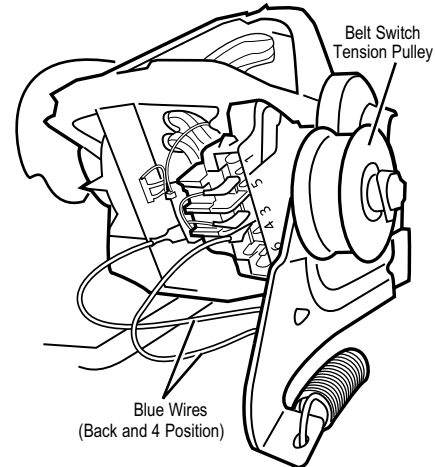

Figure 9. Checking the belt switch.
- Check the belt switch by measuring resistance between the two blue wires, as shown in Figure 9, while pushing up the belt switch tension pulley.